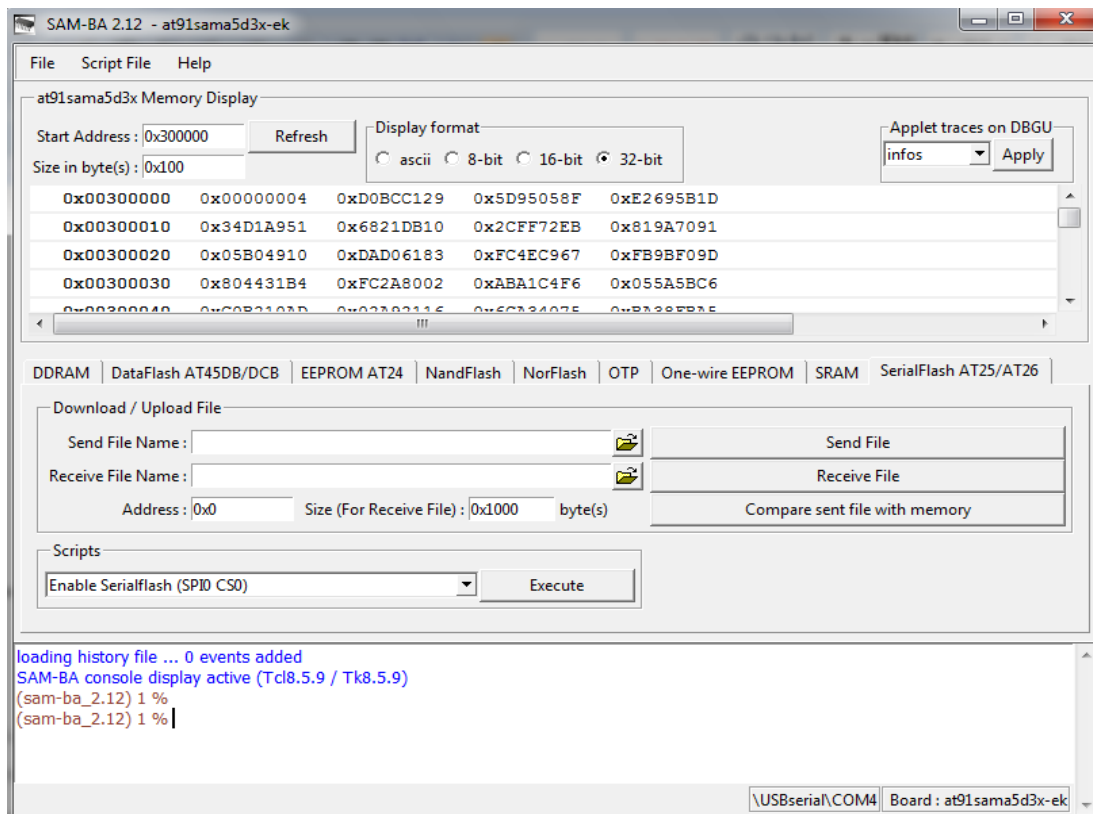

Figure 4-6
(2) Click “Connect” to enter SAM-BA. Refer to figure 4-6: